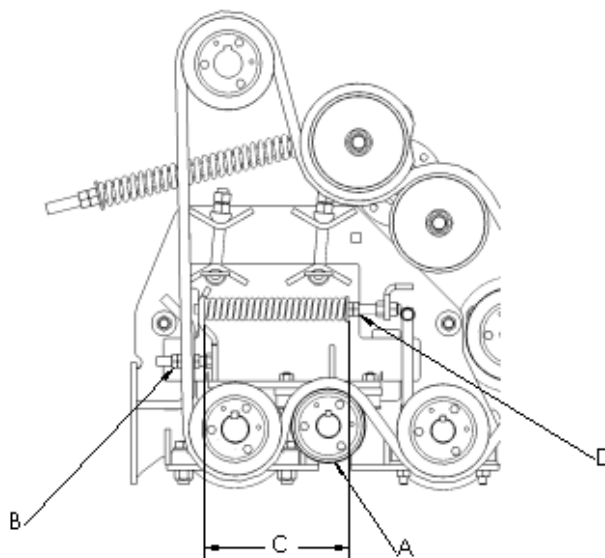

Figure 56: Front Grabroll Spacing Adjustment
3. Adjust nut (B) so dimension (C) is 8.5 in. (22 cm).*
* Refer to Figure 56 on page 30.